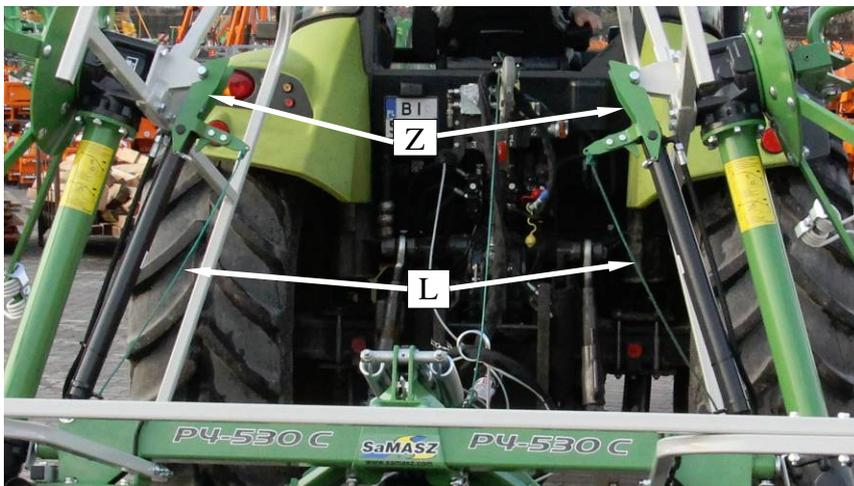

Fig. 17. Unlatching the lock by means of a cord
- ❑ by means of cord **L** unlatch the locks **Z** (Fig. 17) at the same time pulling down the hydraulic cylinders,